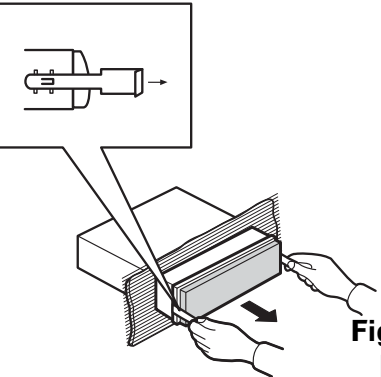

Fig. 4
1. **Insert the supplied extraction keys into both sides of the unit until they click into place. (Fig. 4)**